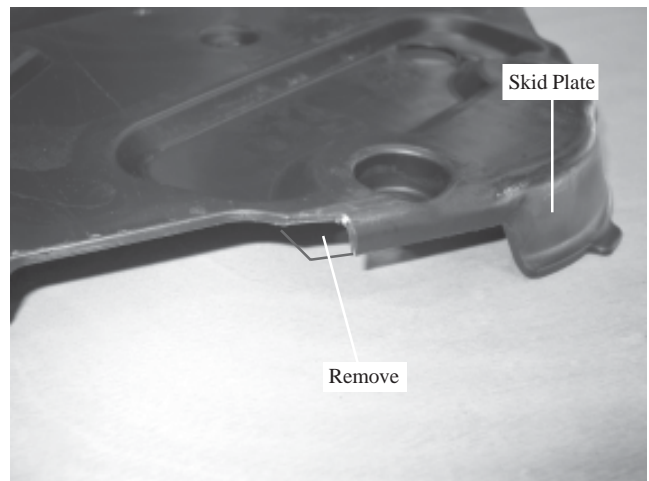

Figure 2
2. Remove approximately a 1.0" by 0.5" piece from both sides of the skid plate using side cutting pliers or snips, Figure 2.